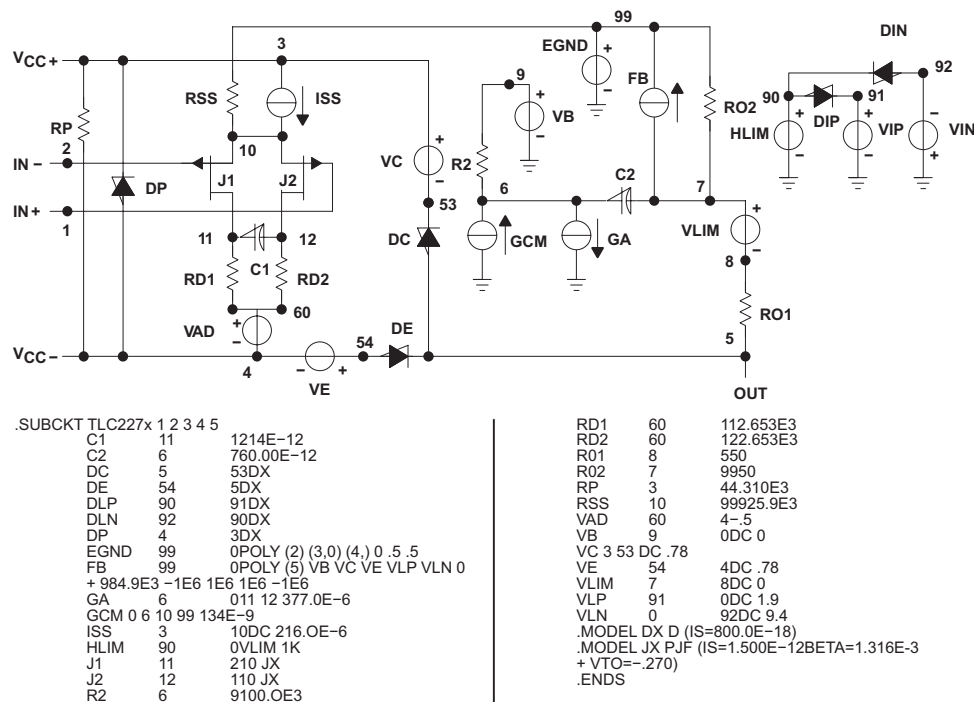

Figure 53. Boyle Macromodel and Subcircuit
Macromodel information provided was derived using MicroSim Parts™, the model generation software used with MicroSim PSpice™. The Boyle macromodel (1) and subcircuit in **Figure 53** were generated using the TLC2274AM-MIL typical electrical and operating characteristics at TA = 25°C. Using this information, output simulations of the following key parameters can be generated to a tolerance of 20% (in most cases):